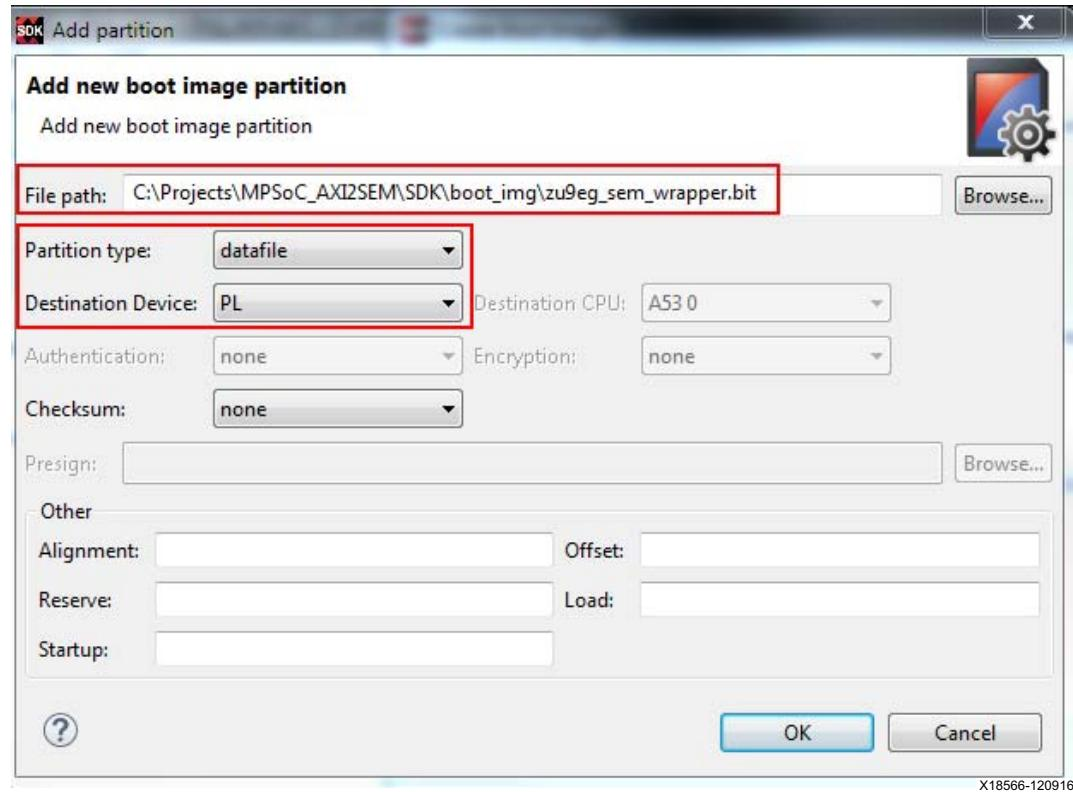

Figure 18: BIT Partition
- b. Verify the Partition Type is **datafile** and the Destination Device is **PL**. See Figure 18.